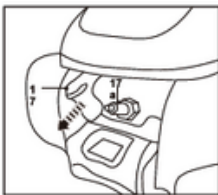

Fig. 29
1. Disconnect the spark plug cap (18) (Fig. 29).